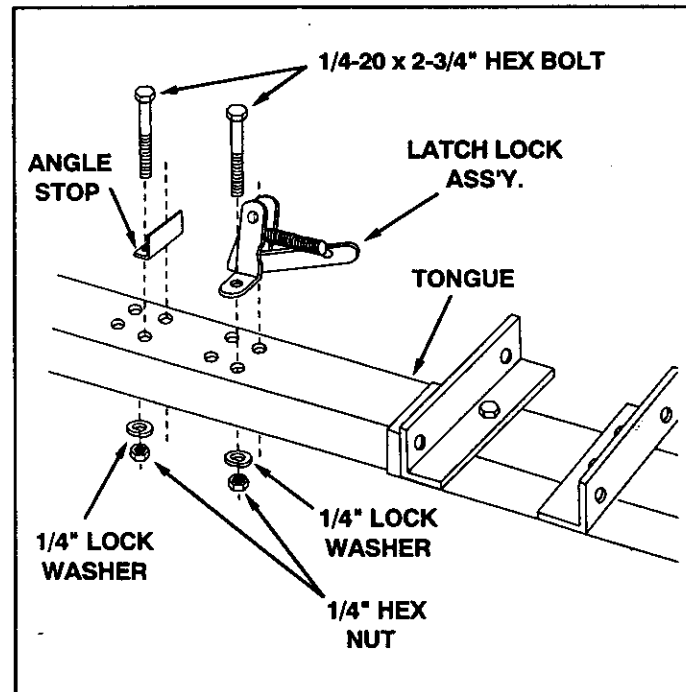

FIGURE 9
- Assemble the latch lock assembly to the tongue using two 1/4" x 2-3/4" hex bolts, two 1/4" lock washers and two 1/4" hex nuts. Fasten to the two front holes in the forward grouping of four holes as shown in figure 9.
- Assemble the angle stop to the tongue using two 1/4" x 2-3/4" hex bolts, two 1/4" lock washers and two 1/4" hex nuts. Fasten to the two front holes in the rear grouping of four holes as shown in figure 9.